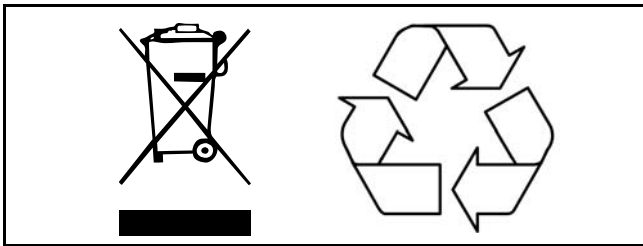

Fig. 1
- For recycling and disposal of the batteries, the WEEE directive (Waste of Electronic and Electrical Equipment) as well as local laws and regulations must be followed. If not they may explode, leak and cause personal injury. When returning batteries, insulate their terminals with adhesive tape. Otherwise, the residual electricity in used batteries may cause fire or explosion. Fig. 1 below shows the symbols for disposal and recycling.